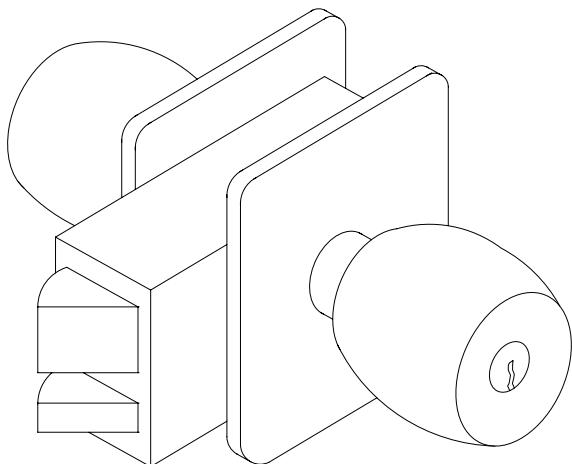

FIGURE 9f
- 5. Unit Locks, Figure 9f, have all parts factory pre-assembled as a unit. They are thru bolted in a rectangular notch cut in the door edge and require little or no disassembly.